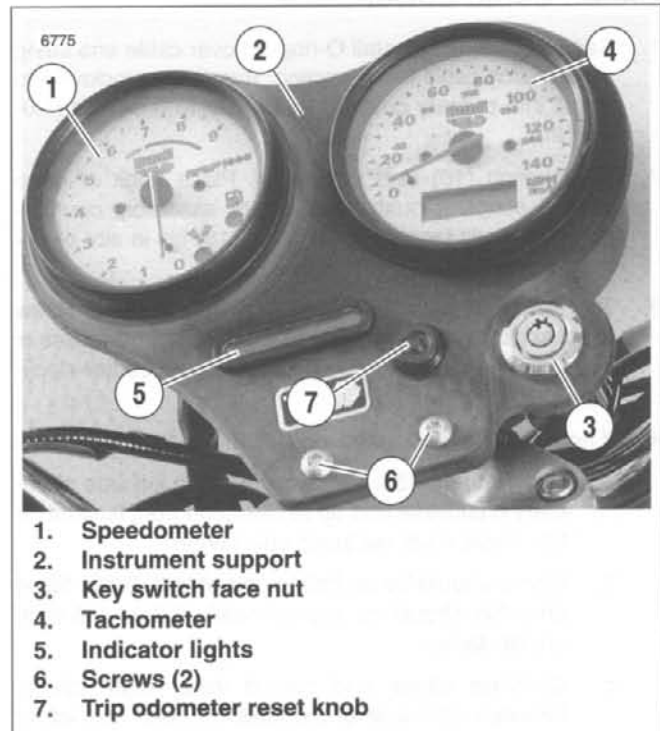
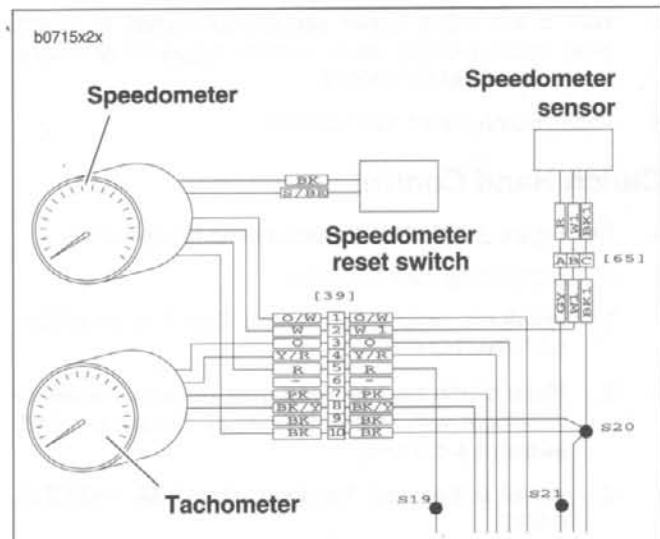

Figure 2-135. Instrument Support
Figure 2-136. Instrument Support Wiring
2. See Figure 2-135. Remove speedometer (1) and tachometer (4). See 7.18 SPEEDOMETER and 7.19 TACHOMETER.
3. Remove face nut (3) from ignition key switch. See 7.3 IGNITION/HEADLAMP KEY SWITCH.
4. Remove indicator lights (5) from instrument support (2).
6. Remove two screws (6) to detach instrument support from handlebar clamp.
1. See Figure 2-135. Attach instrument support to handlebar clamp.
- a. Apply LOCTITE THREADLOCKER 243 (blue) to both screws (6).
3. Install ignition key switch face nut (3). See 7.3 IGNITION/HEADLAMP KEY SWITCH.
4. Install indicator lights (5).
- b. See Figure 2-136. Align wire colors on indicator light housing with correct symbols on graphics panel.
5. See Figure 2-135. Install both instruments. See 7.18 SPEEDOMETER and 7.19 TACHOMETER.